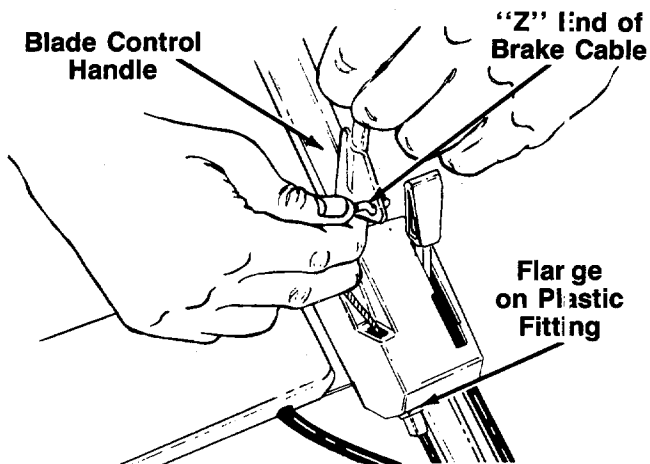

FIGURE 4.
- Hook the "Z" end of the brake cable into the hole in the blade control handle from the inside to the outside as shown in figure 4.